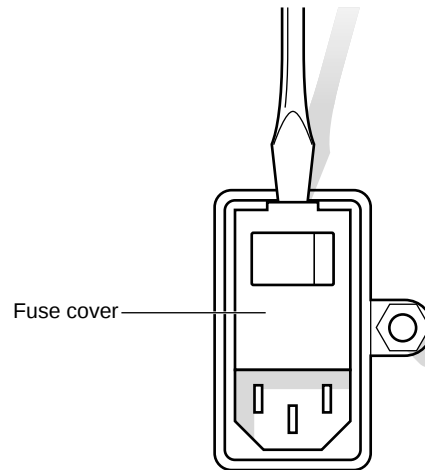

Figure 6-1: Removing the Fuse Cover
3. Using the tip of a small, flat-head screwdriver, open the fuse cover as illustrated in Figure 6-1 or, if the screwdriver is too large to approach from the top, place the screwdriver at an angle or use a smaller screwdriver.